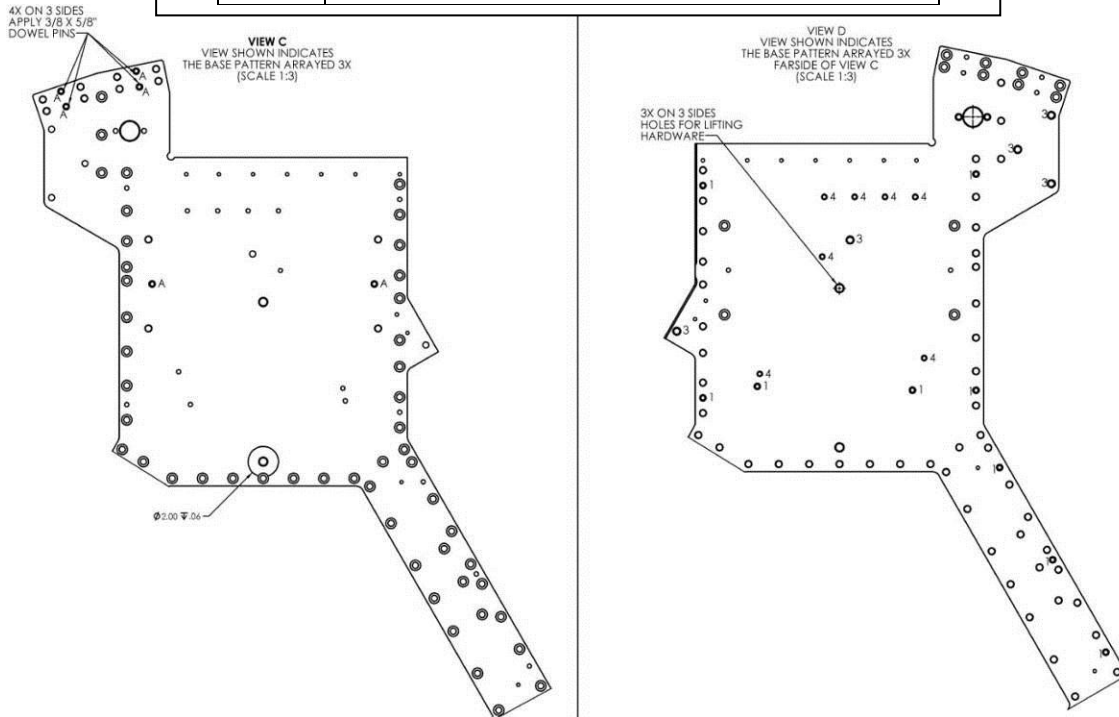
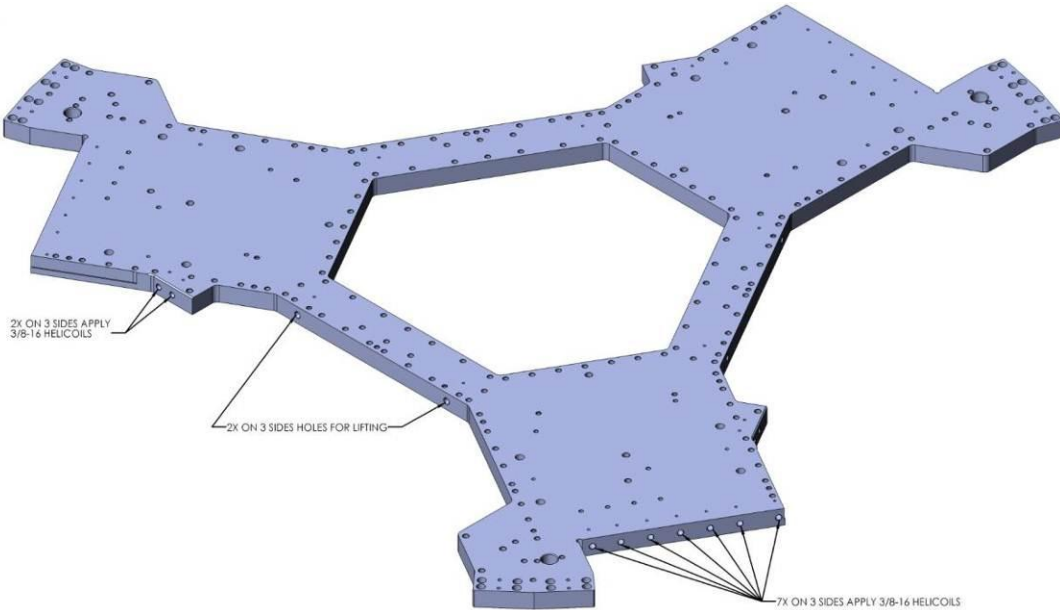

Figure 21: Prep Work for D0902279 Stage 1 Base Plate (Ballast mounting surface up on the left & Ballast mounting surface down on the right)
Figure 22: Prep Work for the side of D0902279 Stage 1 Base Plate
- Place D0902279 Base Plate on the granite table with ballast mounting surface down (see the right screen capture on Figure 21).
- Press (12) 3/8" x 5/8" dowel pins into D0902279. Pins should sit about 0.09" above the surface as shown on the left screen capture of Figure 21 & Figure 22.
- Press (6) 3/8" x 1" dowel pins into D0902279. Pins should sit about 0.5" above the surface as shown on the left screen capture of Figure 21 & Figure 22.
- Install Nitronic 60 Helicoil threaded inserts into D0902279 as shown on the left screen capture of Figure 21 & Figure 22.
- Press (27) 3/8" x 1" dowel pins into D0902279. Pins should sit about 0.5" above the surface as shown on the left screen capture of Figure 21 & Figure 22.